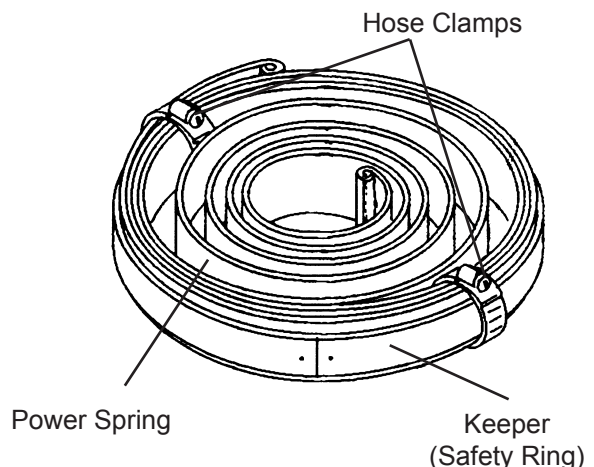

Figure 8
If the power spring has become uncoiled inside the spring case, the “keeper” has failed. (See Figure 8) It is strongly advised that you replace the complete spring case assembly. The “keeper” is a metal band that is placed around the power spring to keep it from uncoiling when removed from the case. If you attempt to remove the power spring when this condition has occurred the spring **will uncoil quickly** and can **cause serious bodily injury**.
10. Removing the power spring; use locking type pliers to compress and hold several rows of the power spring together, then lift out the power spring slowly and place two hose clamp style clamps around the power spring and keeper before disposing of power spring. (See Figure 8 below & Figure 9 on next page)
12. Install the new power spring, making sure that it is laid into the spring case **Clockwise** and that the outside end loop is around spring case bolt (35) and spacer (46).
13. Replace spring case cover (20) and insert cotter pins through sides of spring case (23) and cover. Tighten case and cover to reel base (25) and insert side panel and shaft assembly into base collar (27).
14. Tighten 1-3/8"-20 nut (44) onto shaft, inspect complete reel for proper function and adjust power spring as needed by adding one to two loops of hose at a time to increase power spring tension.